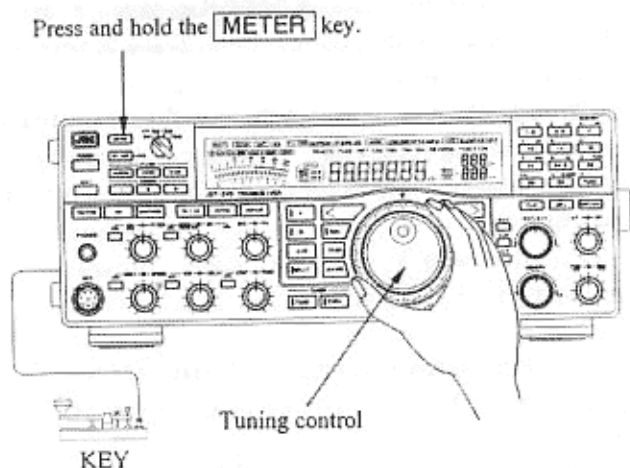

Figure 6.8 CW Zero-in (Method 2)
Holding down the **METER** switch ③ while in the CW mode will set the BFO to 455 kHz (see Fig. 6.8). This allows zero-beat tuning of the received signal. After zero-beating the received signal, release the METER switch to return to selected BFO offset. This method will work regardless of user-defined BFO pitch, and requires no resetting of the FBK or VOX controls.